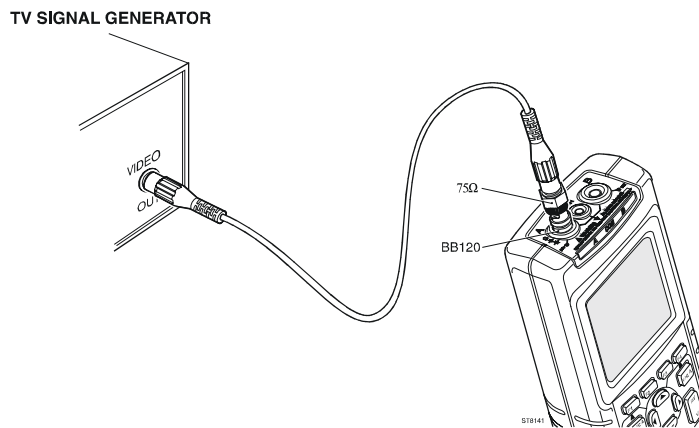

Figure 4-8. Test Tool Input A to TV Signal Generator
1. Connect the test tool to the VIDEO output of the TV Signal Generator as shown in Figure 4-8.